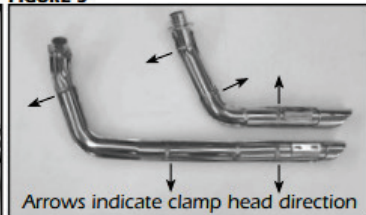

FIGURE 4
6. Slide nutplate inside bracket welded to backside of muffler body (Figure 4). While holding nutplate in place, attach muffler body to mounting bracket 383-P using two 5/16"x5/8" flange head bolts (Supplied). Leave them loose at this time.